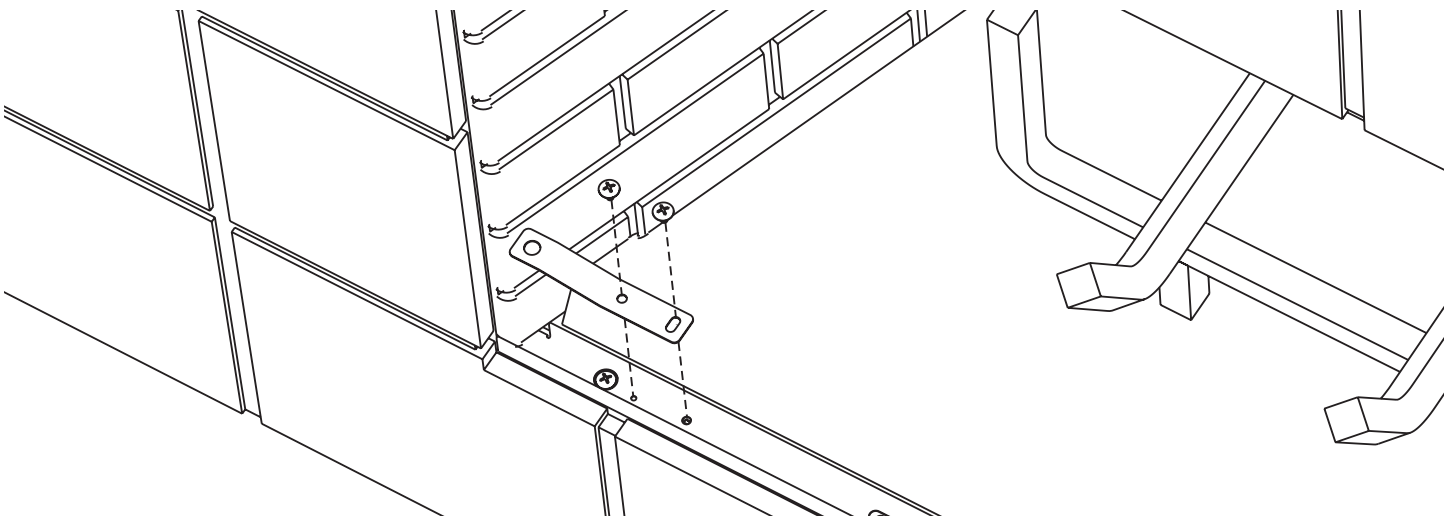

Figure 7
8. Install two (2) Spring Pivots in the bottom corners of the fireplace opening as shown in **Figure 7**. Use Truss-Head screws from the Hardware Pack.